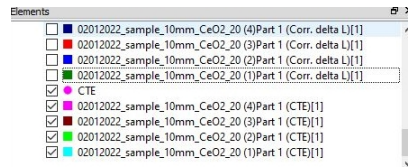

Figure 50. Check information to export.
6. To export data as a table, select the curve to be exported from the elements window (refer to figure 50).